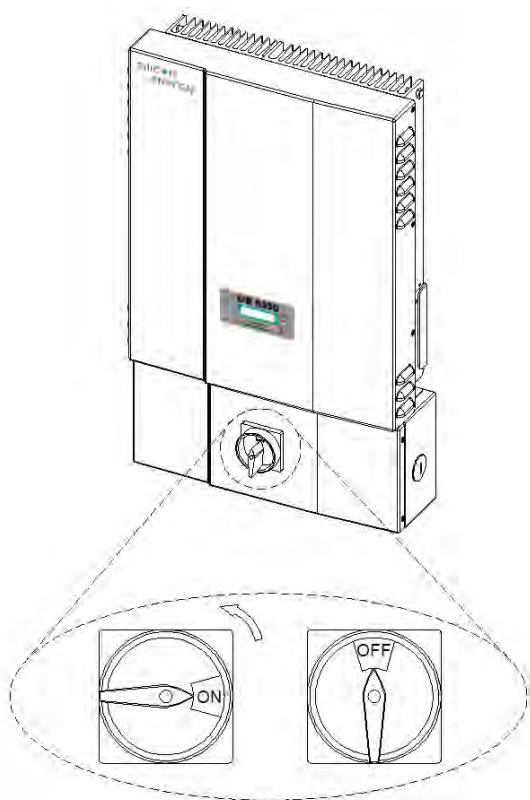

*Fig 2.2.4                      Hook the Inverter on the mounting bracket and then fasten the screw*
3. Once the mounting bracket is attached to the wall, the inverter can be located and fastened to the mounting bracket. Slide the inverter over the mounting bracket flanges and down carefully to lock it in place. Attach the screw through the hole as shown in figure 2.2.4 below used to fasten both inverter and the wiring box together to the mounting bracket.